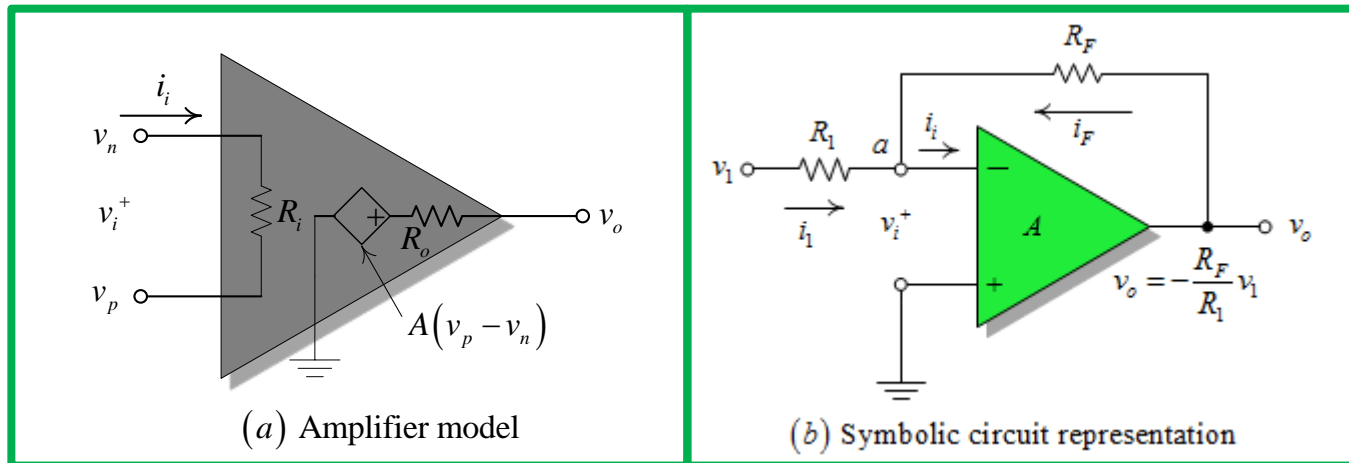

Fig. 4: The basic inverting amplifier circuit.
- ❑ For an ideal op amp as in Fig. 4 *b*, closely approximated by a commercial unit, $v_i = 0$ and $i_i = 0$; therefore, the sum of the currents into node a is
- If the circuit in Fig. 4 is modified to permit multiple inputs, the operational amplifier can perform addition.